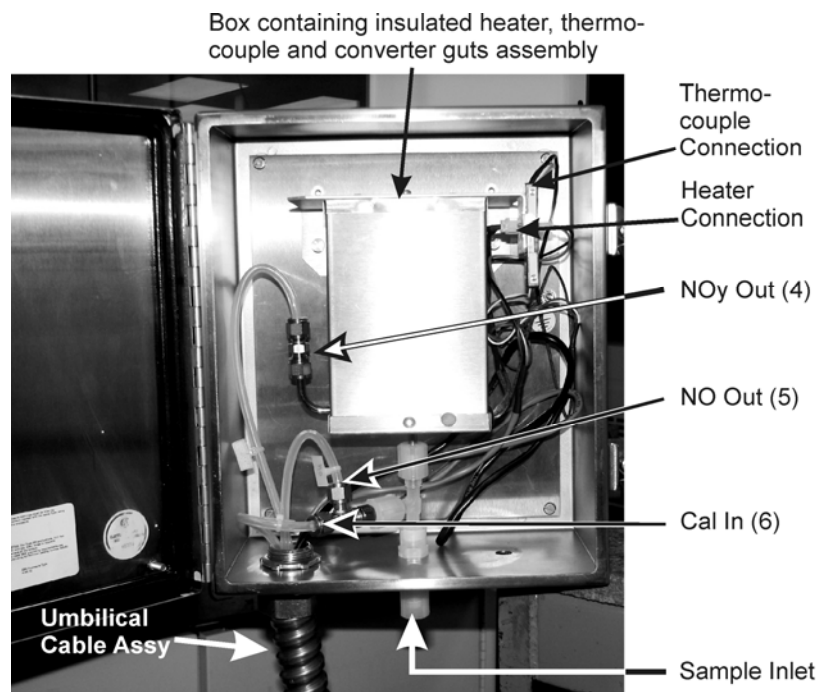

Figure 4. NOy Converter Guts Assembly Location
Calibration of the analyzer can be checked or adjusted using gas introduced through the CAL IN (3) port on the 501Y rear panel. The calibration gas is routed to a tee fitting (see CAL IN (6) in **Figure 4**), near the sample inlet on the external Converter assembly.
The heater, thermocouple, and converter guts assembly is designed to be replaced as a single unit. Check Figure 4 for the assembly location.
3. Disconnect the gas fittings and power cable from the internal box containing the heater, thermocouple and converter guts assembly (**Figure 4**).